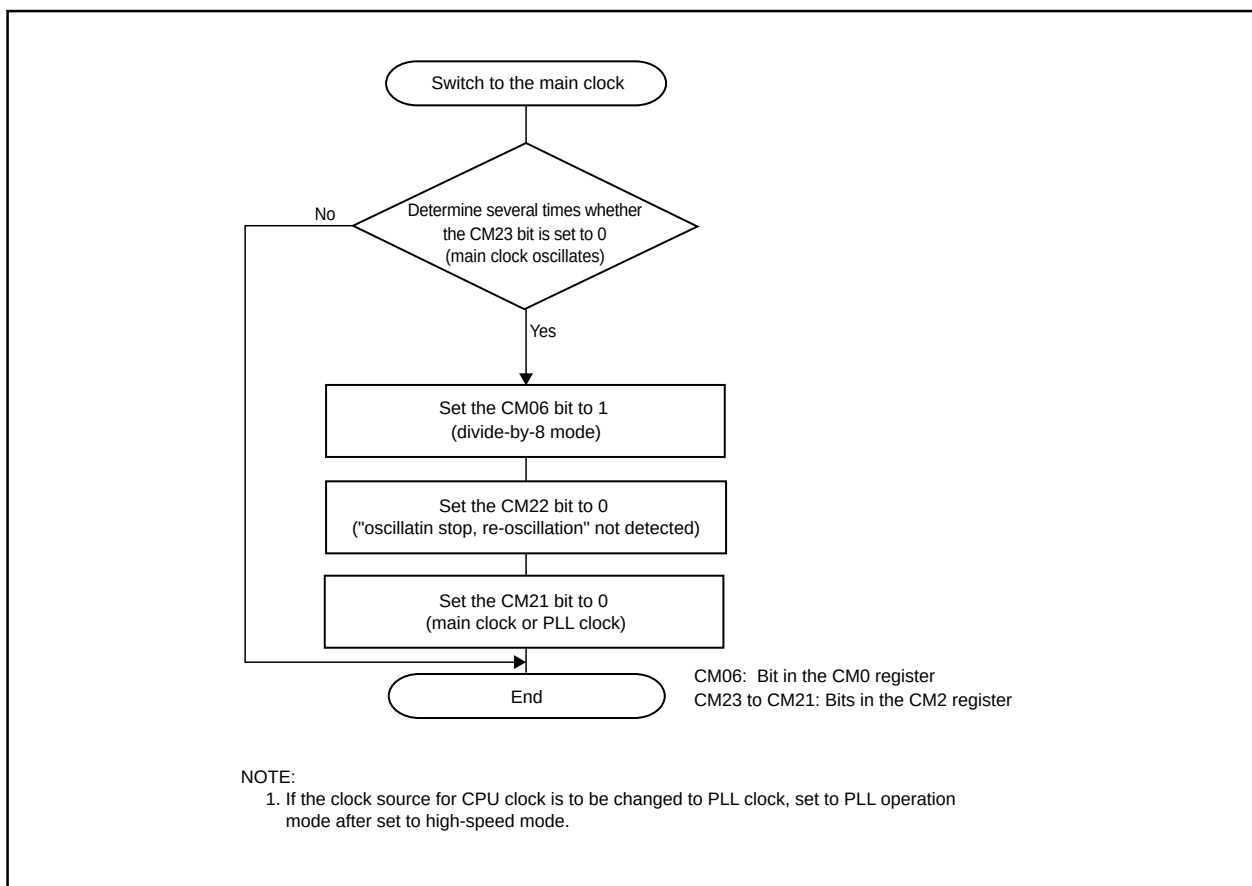

Figure 7.8.3.1. Procedure to Switch Clock Source From On-chip Oscillator to Main Clock
- When the main clock re-oscillated after oscillation stop, return the main clock to the CPU clock and peripheral function clock source in the program. Figure 7.8.3.1 shows the procedure for switching the clock source from the on-chip oscillator to the main clock.